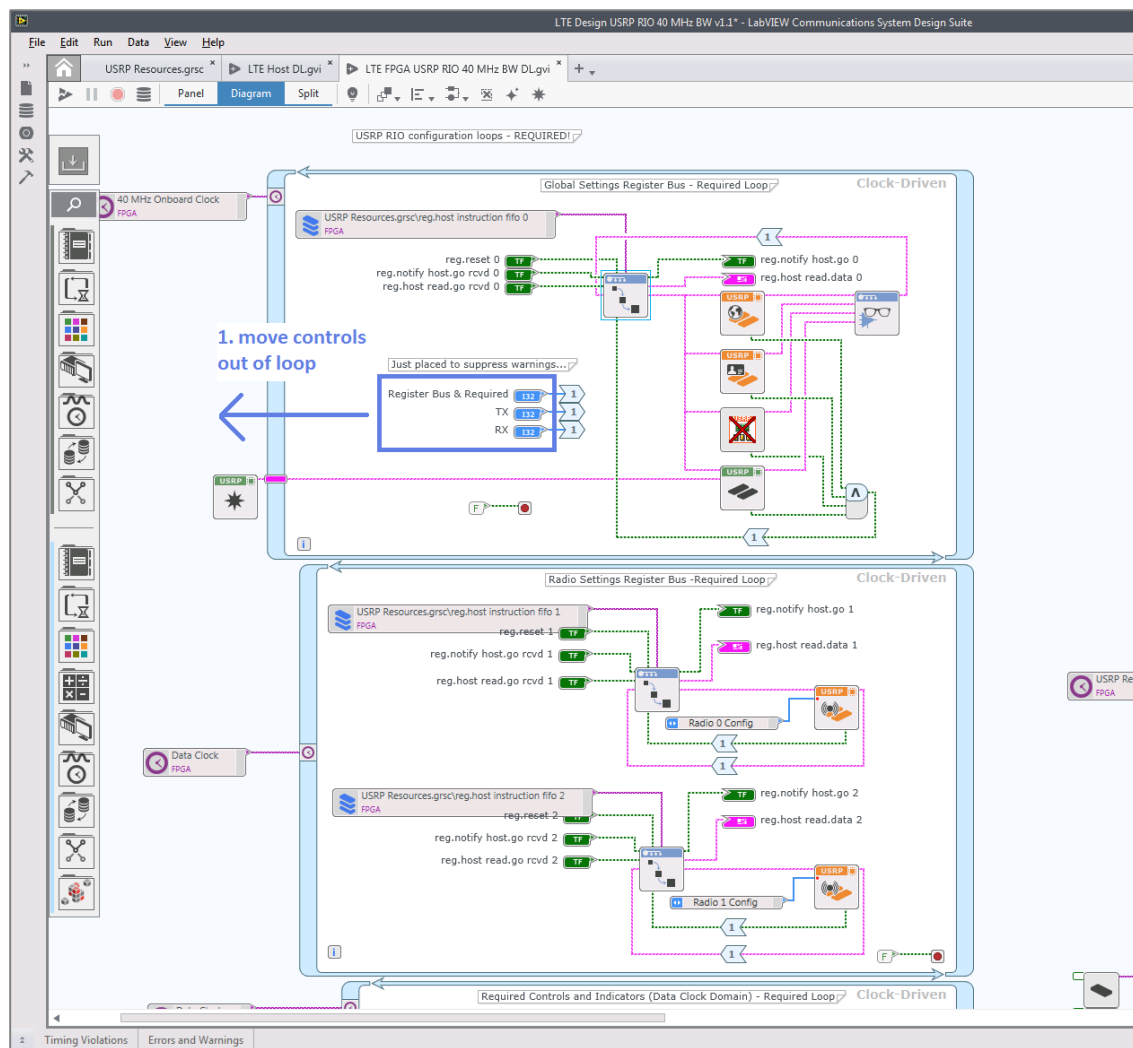

Figure 32 - Clock-Driven Loops for interfacing with the USRP on the FPGA Top-Level
- Move the controls "Register Bus & Required", "TX" and "RX" outside the first USRP Clock-Driven Loop as shown in Figure 32.